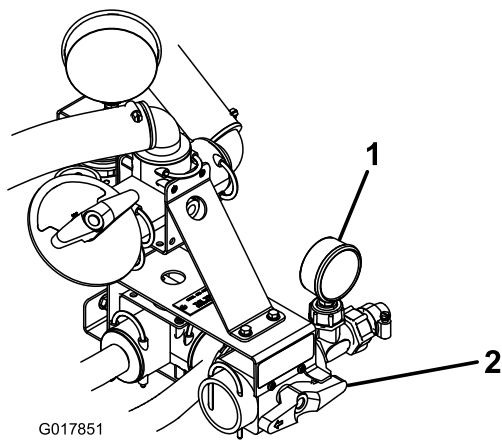

Figure 21
3. Turn the red knob on the face of the control valve to the Hand Spray position (Figure 21).
Note: Use the pressure gauge to the right of the control valve while turning the red knob to achieve the desired amount of pressure at hand sprayer (Figure 21).